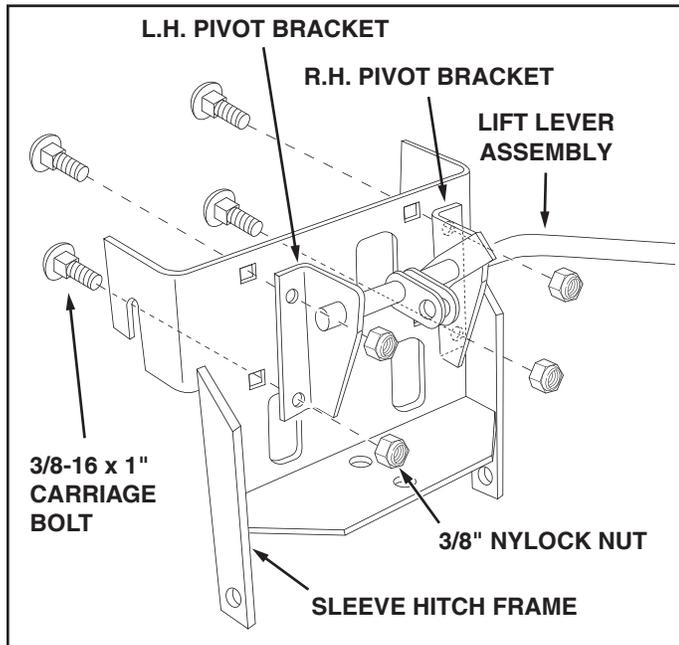

FIGURE 3
- Place the L.H. Pivot Bracket onto the end of the Lift Lever Assembly (the R.H. Pivot Bracket comes already installed on the assembly). See figure 3.
- Attach the R.H. and L.H. Pivot Brackets to the Sleeve Hitch Frame Assembly using four  $\frac{3}{8}$ " x 1" carriage bolts and  $\frac{3}{8}$ " nylock nuts. See figure 3.